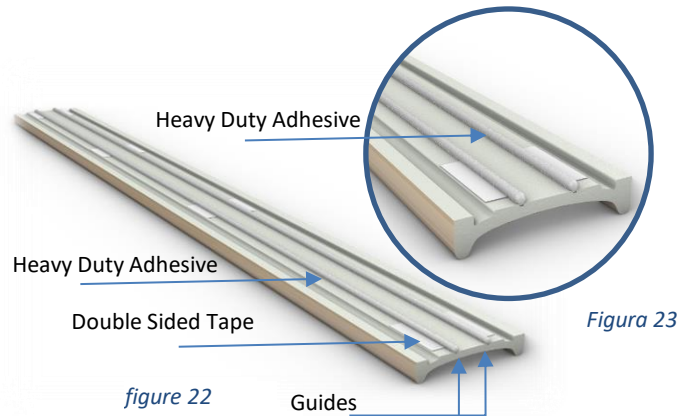

figure 22
- b. Apply two continuous strands of Heavy Duty Adhesive along the length of the bar following its guides on the back of the bar, see illustration figure 22.